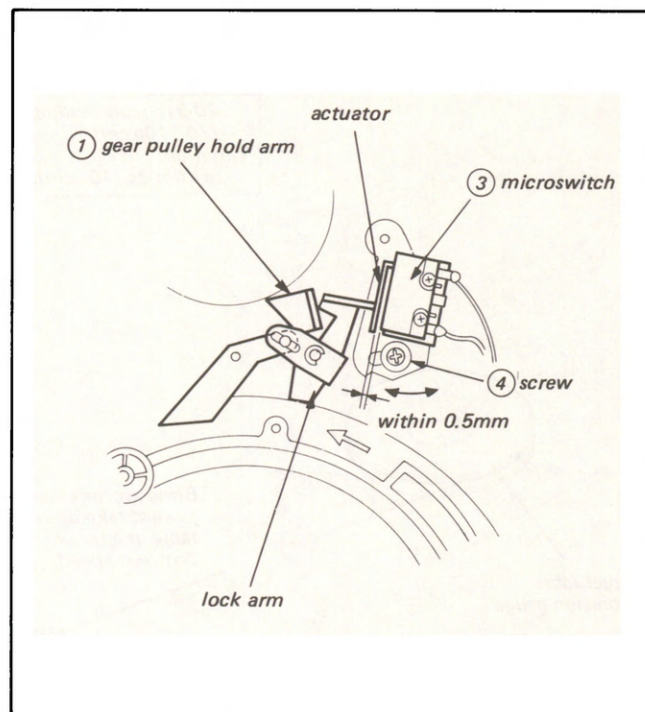

Fig. 3-39. Position adjustment of threading end switch
- 2. Loosen screw (4) and adjust the position of microswitch (3) so that microswitch (3) turns on before gear pulley hold arm (1) moves from the groove of lock arm (2), while turning the threading ring counterclockwise (↺) slowly by hand. Confirm the turning-on of the microswitch with a click.
- 3. Adjust the position further so that the clearance between the actuator of microswitch (3) shown in Fig. 3-39 and the microswitch satisfies the specification (within 0.5mm) when the threading ring is turned counterclockwise (↺) beyond the threading completion point.